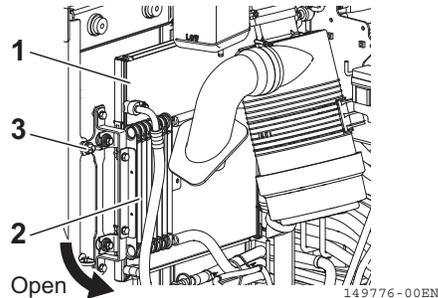

Fig. 8-50
2. Clean off any mud, dirt or leaves clogged between the fins of the air conditioning condenser (Fig. 8-50, 1) and fuel cooler (Fig. 8-50, 2) using a soft brush.
3. Loosen the wing screw (Fig. 8-50, 3) and open the air conditioning condenser.